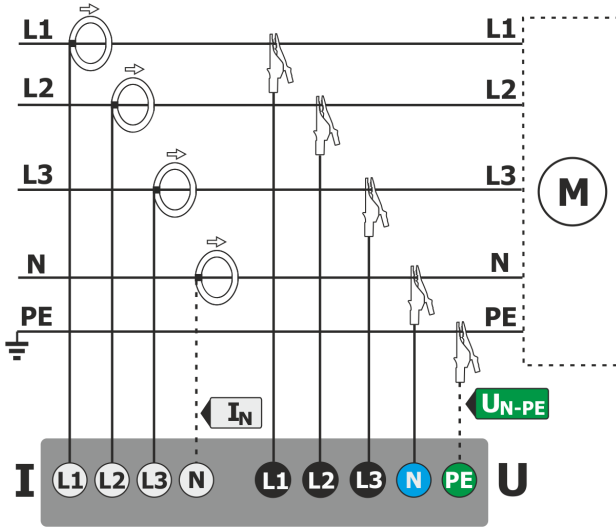

Fig. 60. Wiring diagram – 3-phase 4-wire, 3-phase 4-wire (no U L2) / 2 ½ element (no V L2/B) systems.
- 3-phase 4-wire, 3-phase 4-wire (no U L2) / 2 ½ element (no V L2/B) (Fig. 60),
*In order to correctly calculate total apparent power  $S_e$  and total Power Factor (PF) in a 4-wire 3-phase system, it is necessary to measure the current in the neutral conductor. Then it is necessary to activate option **N conductor current** and connect 4 probes, as shown in Fig. 60. More information on total apparent power  $S_e$  - see sec. 5.3.5.*